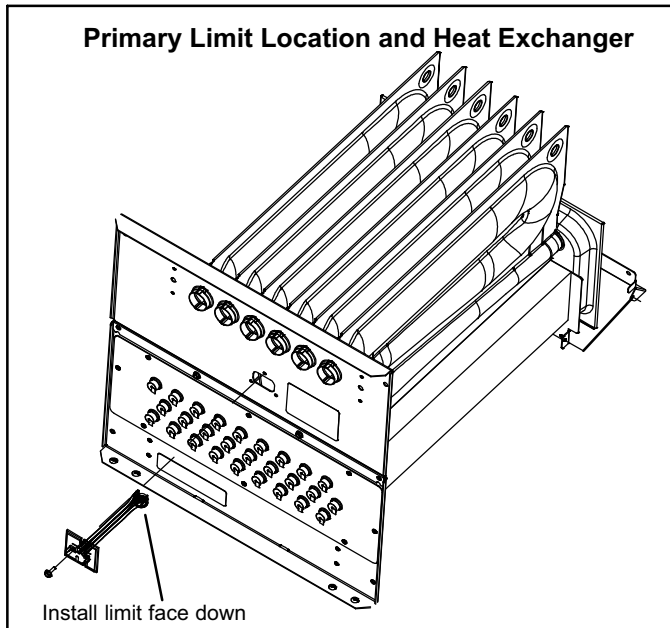

FIGURE 7
4. Primary Limit Control (Figure 7)
5. Heat Exchanger (Figure 7)